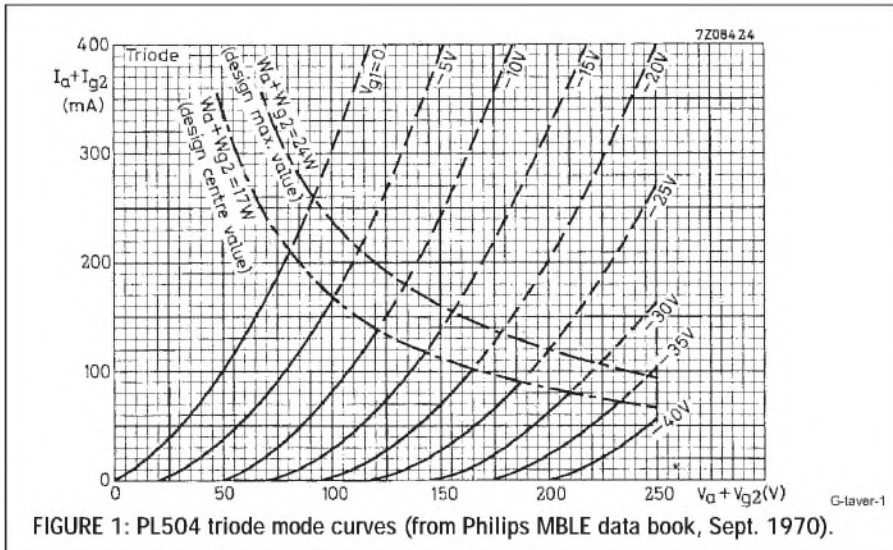

FIGURE 1: PL504 triode mode curves (from Philips MBE data book, Sept. 1970).
- As you will ascertain from the enclosed graph (Fig. 1), THD is about 1.5% at P_{max} , which I consider quite satisfactory for this kind of amplifier ($U_i = 1\text{kHz}$ sine/8 Ω resistive load).